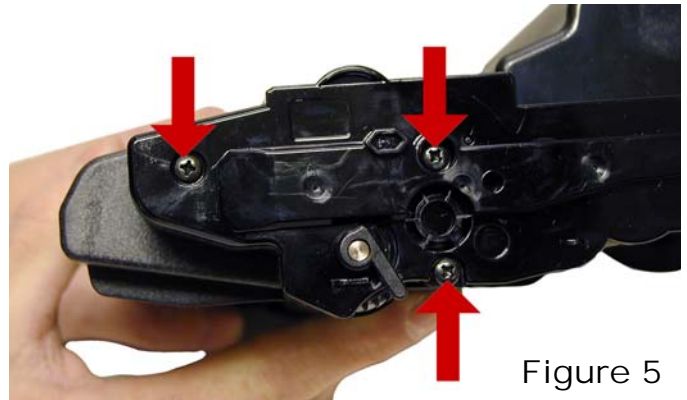

Figure 5
4) On the opposite side of the cartridge, remove the three screws on the left end cap. See **Figure 5**